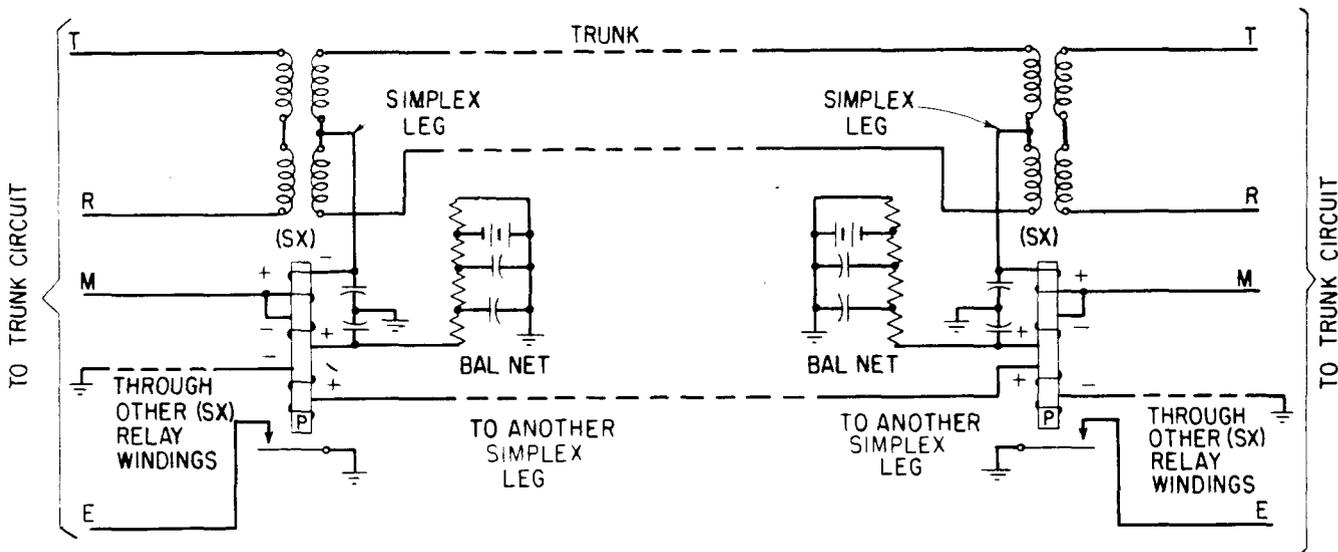

Fig. 7—SX Signaling
**4.34 Simplex Signaling** The method of connecting a simplex signaling circuit is shown in Figure 7. By feeding the signaling